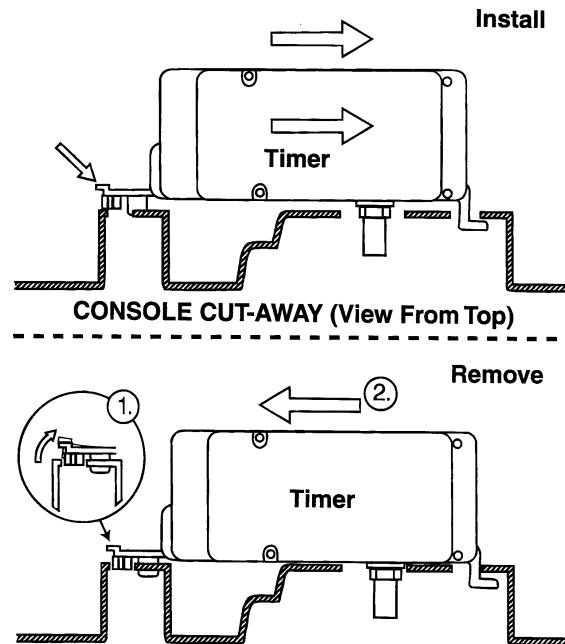

Figure 4-8
5. Slightly lift the locking tab on the back of the timer (**Figure 4-8**).